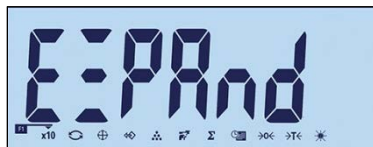

Figure 3-40: Configuring Function Key 1
- Function keys can also be configured from the home screen. Press and hold the function key to be configured to access the configuration screen (Figure 3-40, Figure 3-41).
Access the F2.1.1 menu. Use the up and down keys to select the required function from the options shown in Table 3-3. Focus will change to indicate the selected function, as shown in Figure 3-40, where **Expand x10** is selected. Press to confirm the selection.